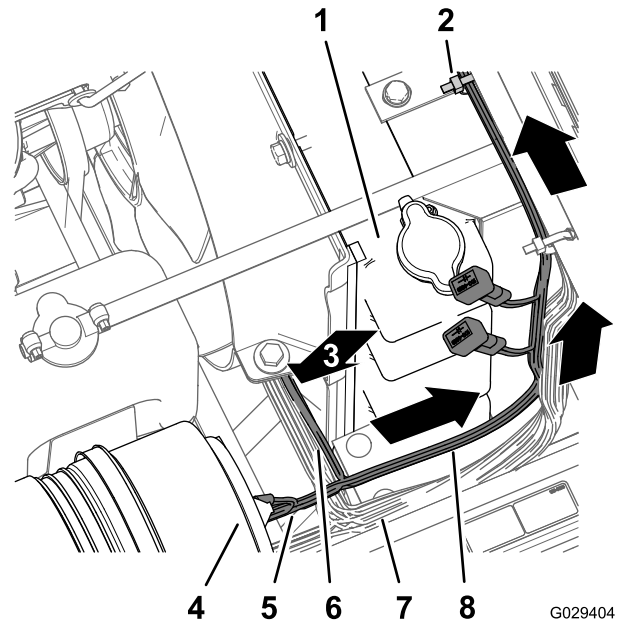

Figure 10
1. Route the wiring harness for the finishing kit forward between the ROPS bar and the lower corner of the sprayer tank, along the wiring harness of the machine, and below the air cleaner for the engine (Figure 9 and Figure 10).